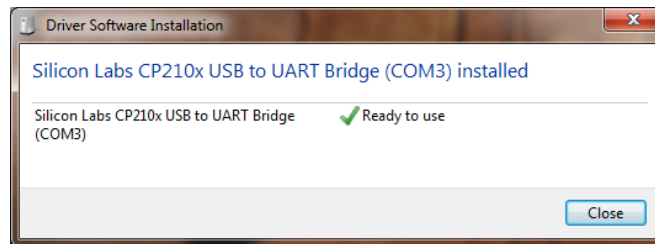

Figure 5 – Example in which Windows reports COM3 has been assigned to the System.
- The window in Figure 5 will appear on Windows 7 after a successful driver installation. In some cases this message will not appear until the system is plugged in to the USB socket.